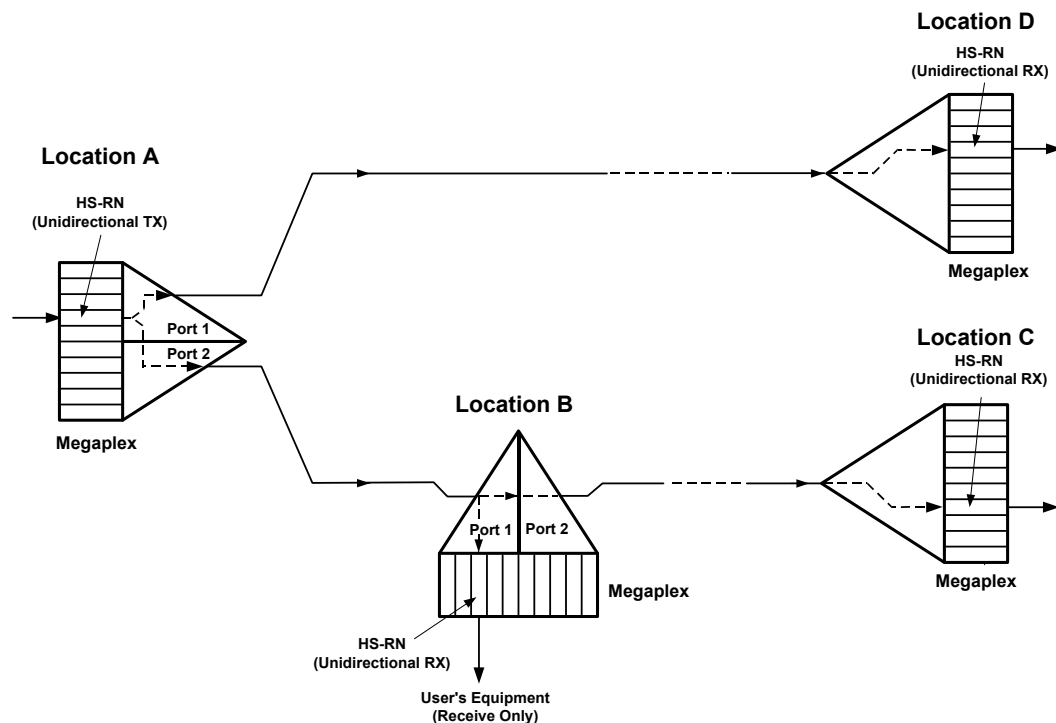

Figure 1-3. Typical Unidirectional Broadcast Application
This capability is achieved by separating the handling of the receive and transmit paths in the timeslot assigned for the unidirectional channels, as shown by the dashed lines within the Megaplex units in Figure 1-3.
Figure 1-3 shows a network that uses the unidirectional broadcast mode to distribute data from a central location (A) to several remote locations (B, C, D, etc.). In Figure 1-3, the user at the central location (A) is connected to an HS-RN channel configured for operation in the unidirectional transmit mode. The channels of the remote users (at locations B, C, D) are configured for the unidirectional receive mode.